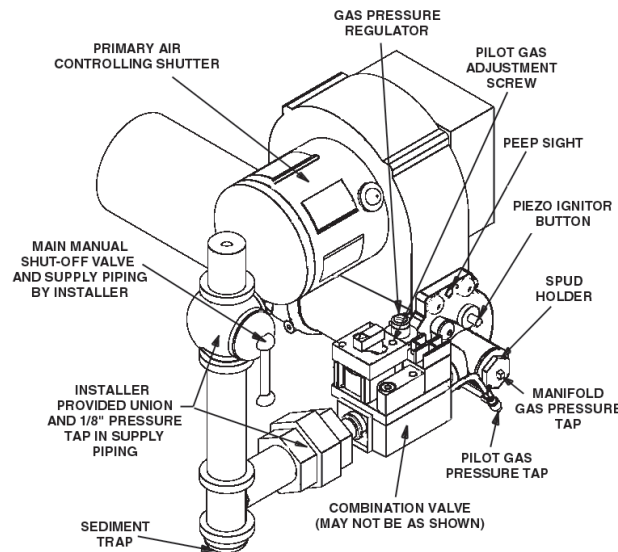

Figure 6: Piping Connections
CAUTION: The available gas pressure should be within the limits shown in the SPECIFICATIONS section. Excessive pressure will damage Combination Valve and Regulator. If the supply pressure exceeds the 14.0" W.C. maximum, a suitable intermediate main regulator must be installed ahead of the Main Manual Shut-Off Valve shown in Figure 6.
Provide a sediment trap, union and 1/8" pressure tap in piping close to burner as shown in Figure 6.
If the burner piping must be rearranged because of space limitations, be sure to carry out the general arrangement shown in Figure 6. Install the Combination Valve in any position except upside down.
TO CHANGE SPUD: Turn Manual Gas Cock Knob on Combination Valve to OFF. Remove the Spud Holder. See Table 3, and Figure 6 or 7.
6. Turn Manual Gas Cock Knob on Combination Valve to PILOT and depress knob, or red button if so equipped. Hold firm and light pilot by depressing piezo ignitor button several times. Pilot should light. Pilot may be viewed through Peep Sight located in Back Plate (See Figure 6). Failure to light is probably due to air in pilot gas line. Attempt several relights. Then, if necessary, refer to Trouble Chart or Section IX to isolate the problem.